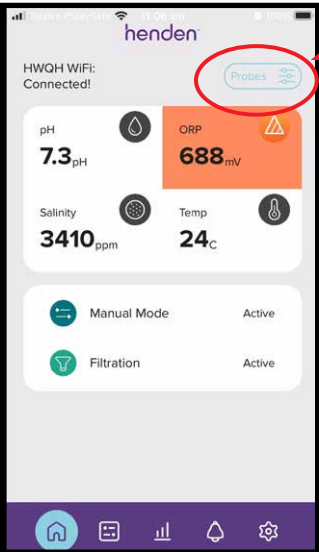

Figure 8.8
- From the dashboard of the Henden Smart Chlorinator App, press “Probes” (refer figure 8.8);